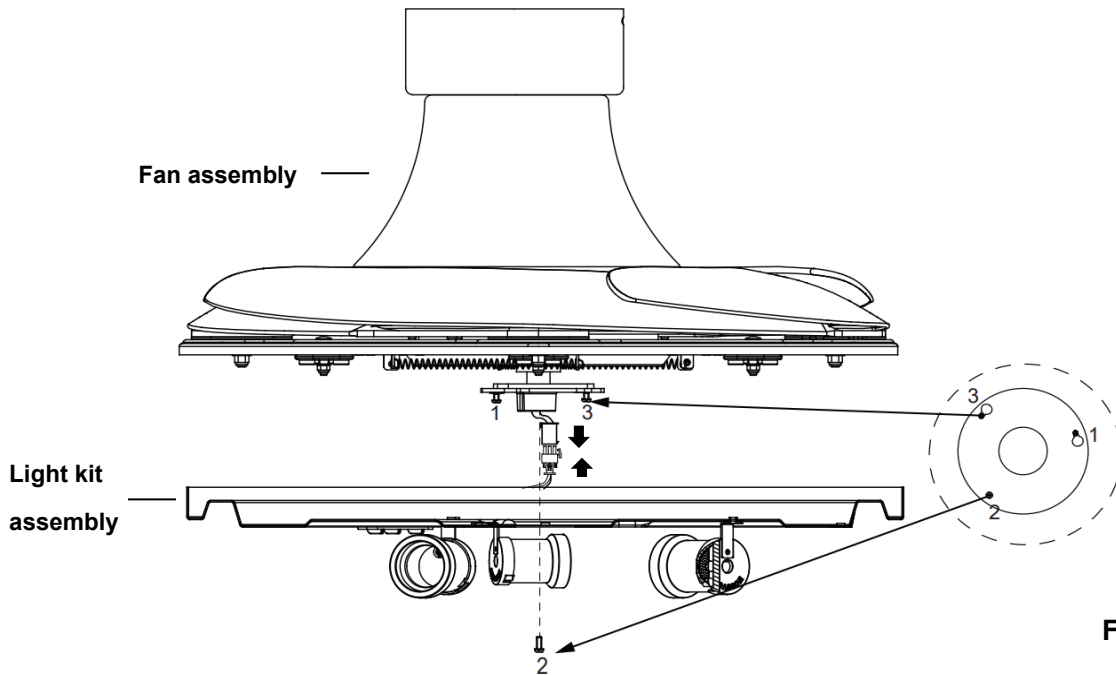

Fig. 9
LIGHT KIT INSTALLATION (Fig.9 & 10&11)
1. Loosen the screw (2) from the fan bracket. Align the two slot screws with the keyhole slot (1) and (3) of the light kit plate. (Fig. 9)
2. Turn the light kit counterclockwise until the slot screws are firmly at the end of the slots (2).
3. Secure screw (2) to the light kit plate. Tighten all three screws. Do not over-tighten.
4. Connect the quick connector of fan assembly to the quick connector of the light kit assembly (Fig. 9).